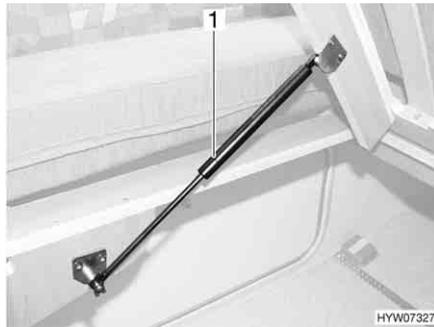

Fig. 128 Fixed bed
- Lift slatted frame. The gas-pressure springs (Fig. 128,1) hold the slatted frame open.